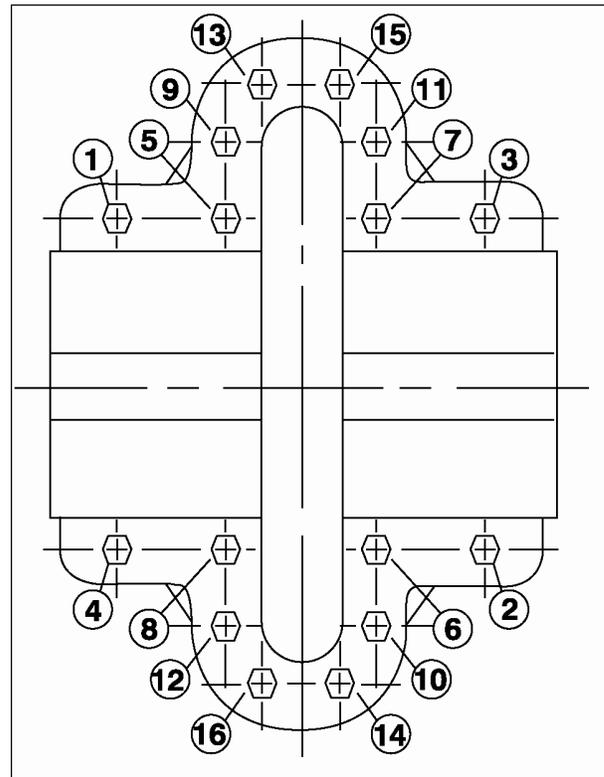

FIGURE 59 – MAIN JOINT BOLTS
27. Lower the upper half casing (2-001-0) into place using the tapered dowel pins (2-916-1) and install casing main joint bolts (2-904-1). The casing joint bolts should be tightened to the following torques: 140 ft-lb minimum for 5/8"-11 hex head cap screws (Grade 5); 350 ft-lb minimum for 7/8"-9 Ferry Cap Counterbore screws (Grade 8). Bolt torquing pattern is shown in Figure 59.
29. Reinstall all main joint bolts, following tightening sequence illustrated in Figure 59. (The number of casing bolts varies with the size of the pump.) Torque bolts 140 ft-lb minimum for 5/8"-11 hex head cap screws (Grade 5); 350 ft-lb minimum for 7/8"-9 Ferry Cap Counterbore screws (Grade 8).